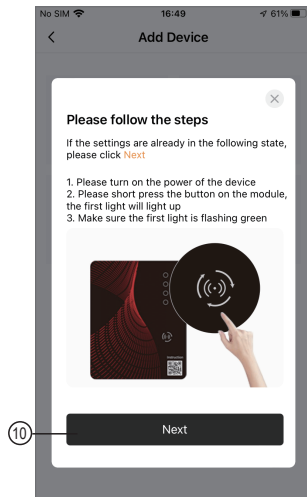
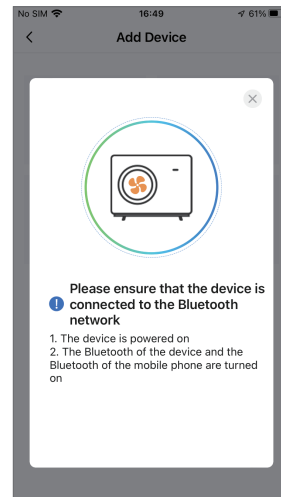

Fig.6 WIFI Module On interface
Fig.8 Searching device interface
1. Follow the instructions on the page (Fig.6), press button on module and hold for 1 second until two lights are on, then AP connection is activated, click ⑩ to turn the page;
2. Click ⑪ to enter the WIFI password for the current connection, click ⑫ to confirm;
3. The APP automatically searches for WIFI module (Fig 8);